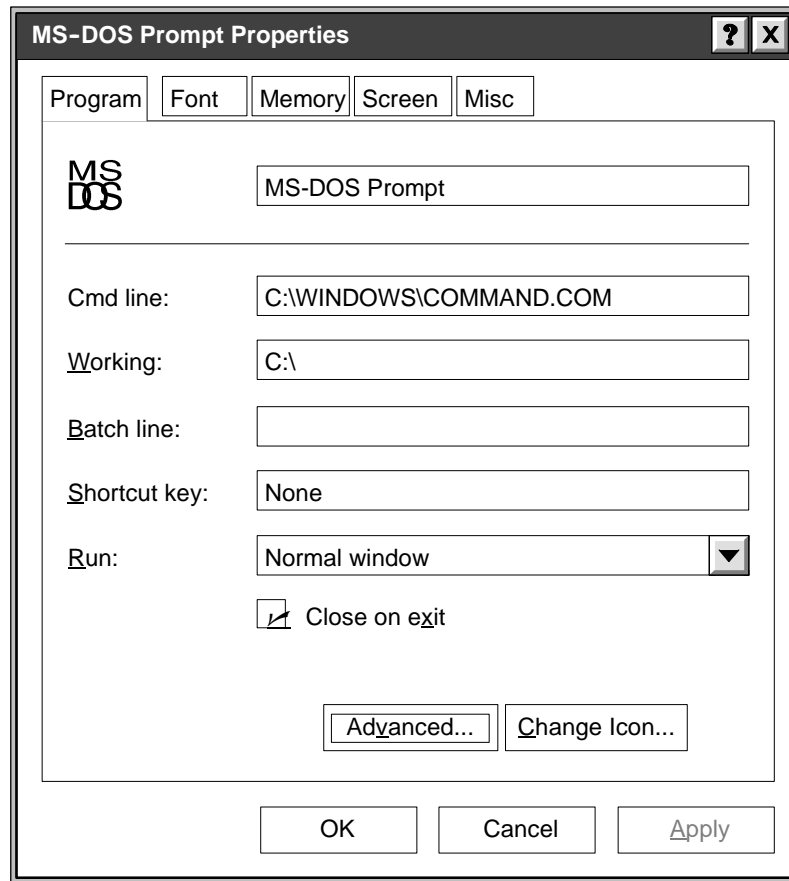

Figure D-3 MS-DOS Prompt Properties Dialog Box
1. Click the right mouse button on the new icon, and select **Properties** from the menu. The system displays the MS-DOS Prompt Properties dialog box (Figure D-3).